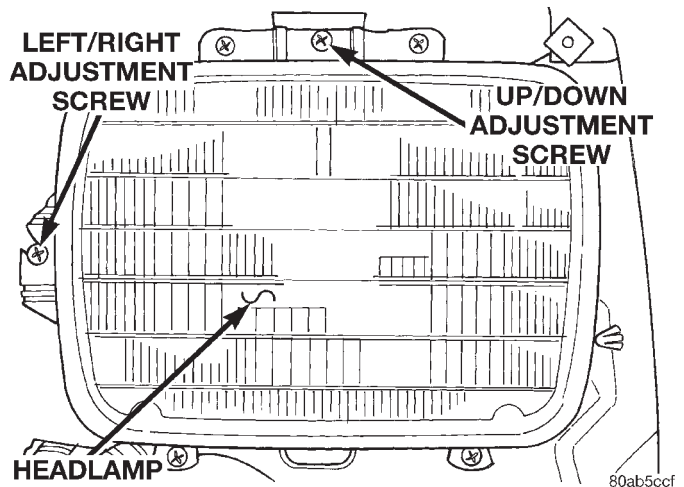

Fig. 2 Headlamp Beam Adjustment Screws
- (1) Remove screws and both headlamp bezels.
- (2) Clean front of the headlamps.
- (3) Place headlamps on LOW beam.
- (4) Cover front of the headlamp that is not being adjusted.
- (5) Turn vertical adjustment screw (Fig. 2) until the headlamp beam pattern on screen/wall is similar to the pattern depicted in the alignment screen figure.